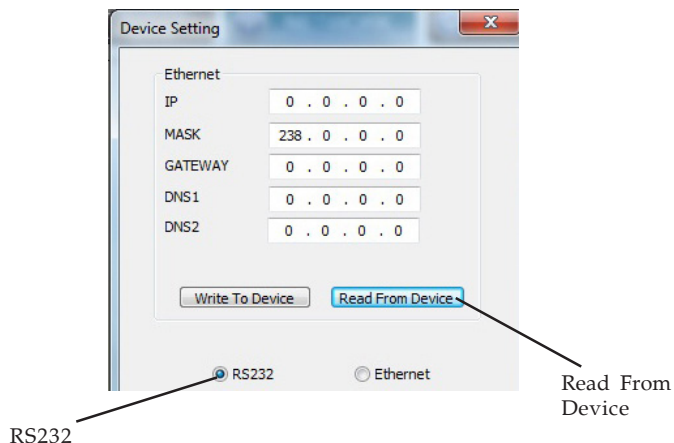

Figure 13
4. At the **Device Setting** window, select **RS232**, then click **Read From Device**. See **Figure 13**.